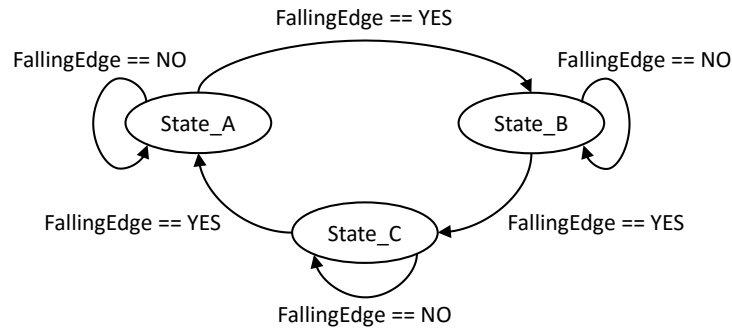

Figure 1: State Transition Diagram of the FSM
2. [40 points]: Given that the clock frequency ($clk_{I/O}$) of ATmega328P is 16MHz, implement the finite state machine (FSM) shown in Figure 1. The state transitions are made whenever a button connected to INT0 pin (i.e. PD2) is pushed and a **Falling Edge** is detected at INT0. Each state produces an output signal at PB2, and the output specifications of the states are as follows:
3. [100 points]: A colleague wants your help in executing a particular task for which you need to write a code such that a task() is executed as soon as the following events occur (See Figure 1).